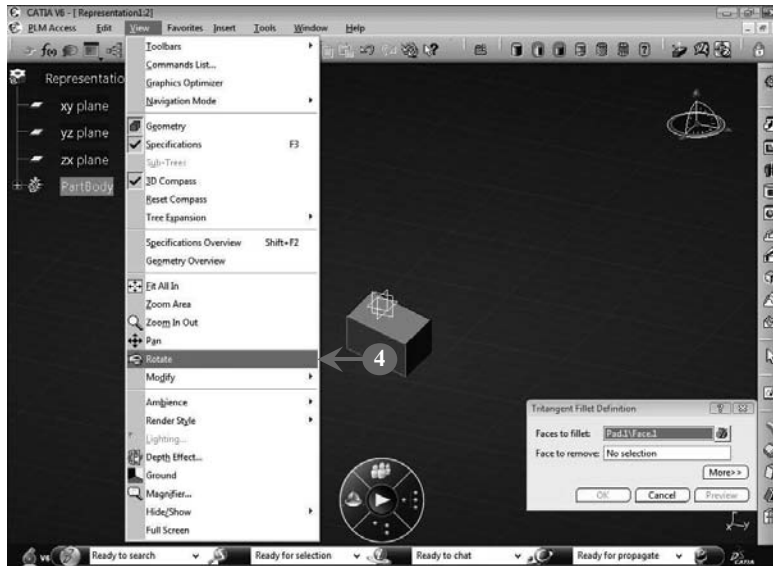

FIGURE 3.64
4. Enable the rotating of the solid model by using the **View>Rotate** option, as shown in **Figure 3.64**: